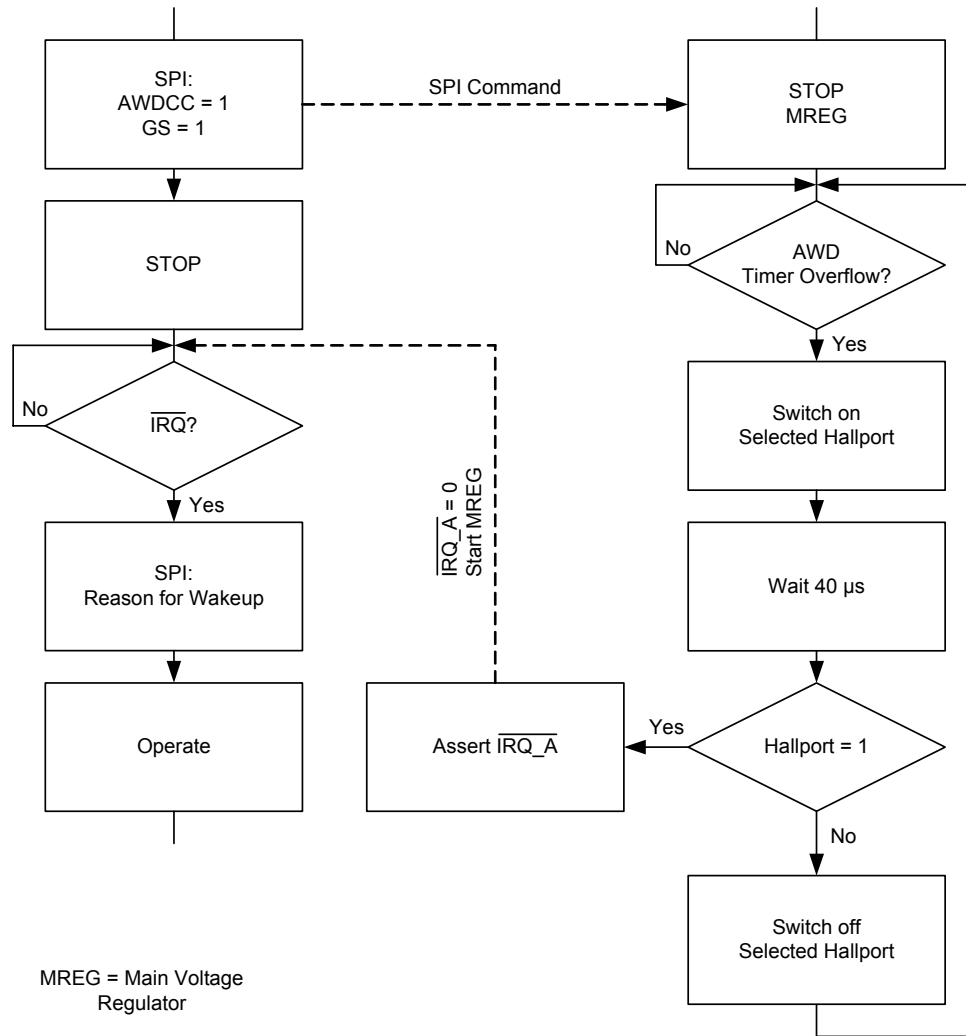

Figure 16. Hall-Effect Sensor Input Terminal Cyclic Check Wake-Up Feature
- The cyclic wake-up of the AWD is enabled (AWDCC = 1); see Figure 16